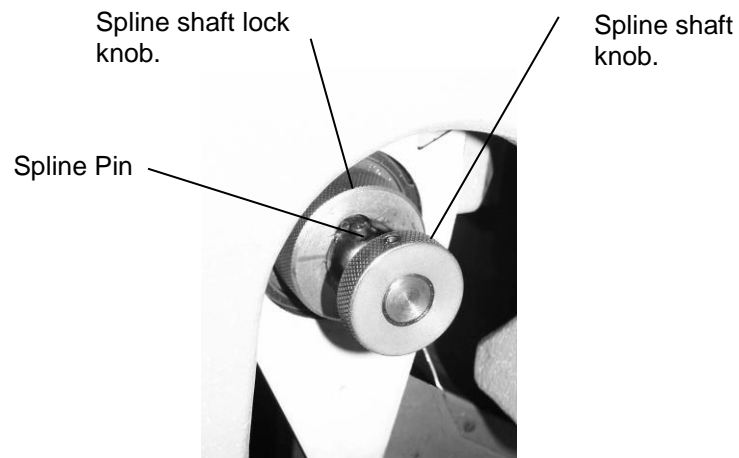
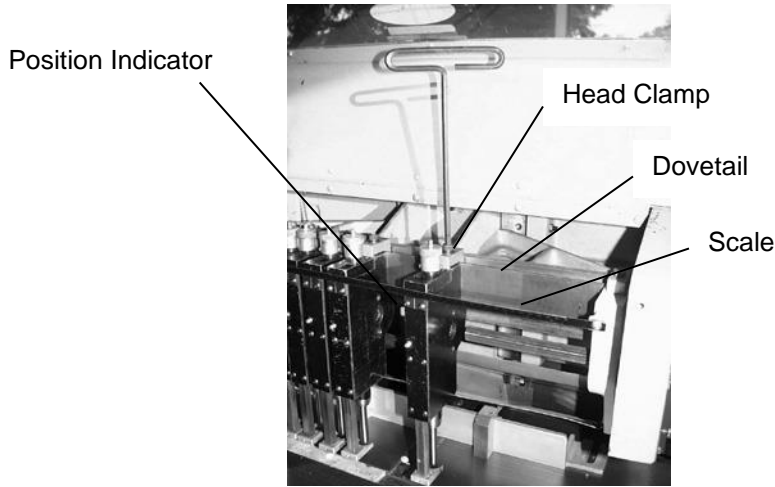

Figure 5
Figure 6
2. Rotate the spindle lock knob until the cut out in the knob aligns with the pin in the spline shaft and pull the shaft out. (See Figure 5 & Figure 6, below)
Insert the spline shaft through each head (you may have to rotate the spline to align it with the drill head gear) until it seats in the left hand spline bearing. The spline must go in far enough to enable the spline lock ring to secure the spline shaft pin. Insert the spline pin into the lock ring and rotate to lock. (See Figure 5, on page 15) Close and secure plastic cover.